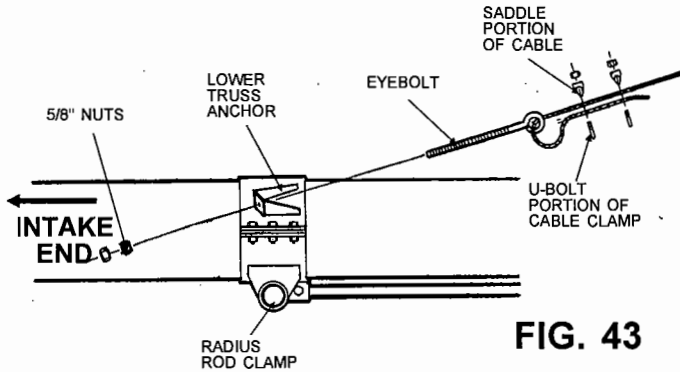
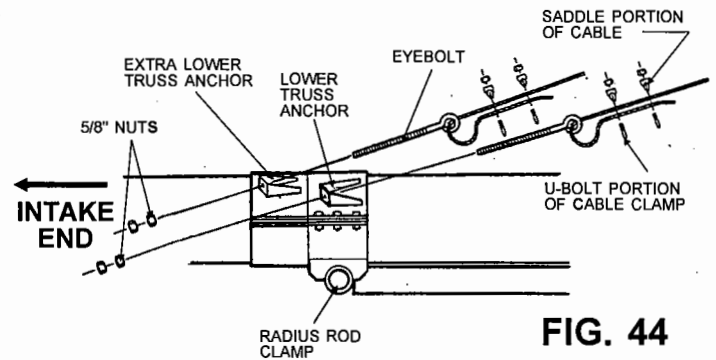

FIG. 43
FIG. 44
- Step 4. Fasten radius rod clamp to the auger tube using a 6" wide halfband and six 3/8" x 1 1/2" long (grade 5) hex head capscrews with nylon locknuts. On 52', 62' and 72' models the 6" wide halfband will have truss anchors welded to it. The truss anchors must be pointing towards the discharge end of the auger. See Fig. 43 on page 34 for 42' & 52' models. See Fig. 44 on page 34 for 72' models.
Step 12. Install the eyebolts into the lower truss anchor with the eye of the bolts pointing towards the discharge end of the auger. Install flat washer and two nuts on each eyebolt. The 52' and 62' models use two eyebolts. See Fig. 43. The 72' models use four eyebolts. See Fig. 44.
- Step 16. Attach truss cables to eyebolts using two cable clamps per each cable. **NOTE:** Secure the clamp u-bolt against loose end of cable. See Fig. 43 on page 34 for 52' & 62' models. See Fig. 44 on page 34 for 72' models.